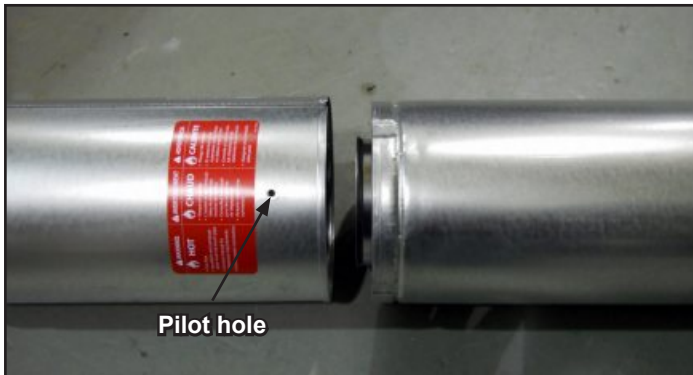

Figure 7.3 - Slip Section Pilot Holes
- Slide the inner flue of the slip section into the inner flue of the pipe section and the outer flue of the slip section over the outer flue of the pipe section. See Figure 7.3.